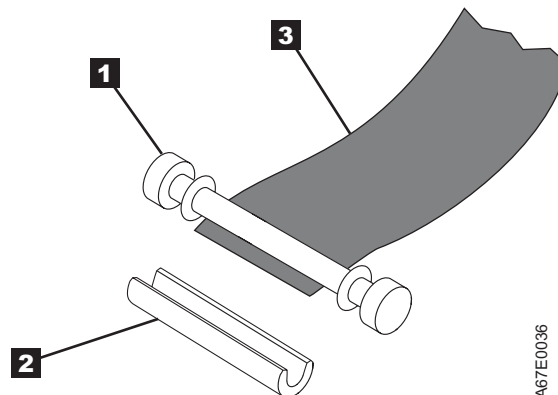

Figure 41. Removing the C-clip from the leader pin. Use your fingers to push the C-clip from the leader pin.
5. On the leader pin (**1** in Figure 41), locate the open side of the C-clip **2** . The C-clip is a small black part that secures the tape **3** to the pin.